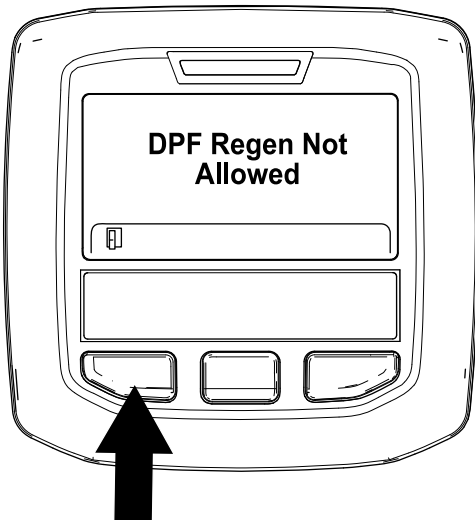

Figure 41
- If the regeneration process is not allowed by the engine computer, the “DPF Regen Not Allowed” message displays in the InfoCenter (Figure 41). Press the left button to exit to the home screen